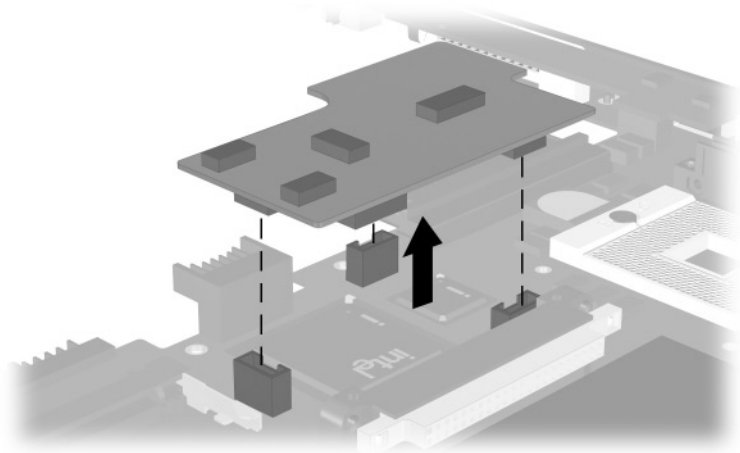

Figure 5-35. Removing the DC-DC Converter Board
3. Lift the left and right edges of the DC-DC converter board to disconnect the board from the system board (Figure 5-35).